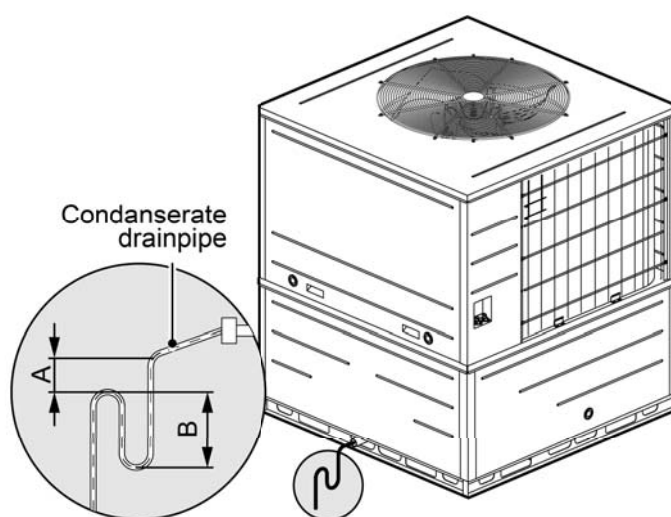

Fig.11
- (1) Condensate drain side is pitched lower than the opposite side. (see Fig. 11)
- (2) When shipped out from factory, both the condensate outlets are blocked by rubber plug. So before installation, please take the rubber plug out.
- (3) Condensate removal is performed by attaching a PVC pipe to the drain pan and terminated in accordance with local or state Plumbing/HVAC codes.
- (4) The condensate pipe shall be installed with an inclining angel of 5~10°, so as to facilitate the drainage of condensate.
- (5) As the inside of the unit is in the negative pressure status, it is required to set up a backwater elbow. The requirements is: $A=B \geq P/10+20(\text{mm})$.P is the absolute pressure inside the unit. The unit of the pressure is Pa.
- (6) After the electrical installation is completed, carry out the testing of the drainage system.
- (7) It is not allowed to connect the condensate drain pipe into waste pipe or other pipelines which are likely to produce corrosive or peculiar smell to prevent the smell from entering indoors or corrupt the unit.
- (8) It is not allowed to connect the condensate drain pipe into rain pipe to prevent rain water from pouring in and cause property loss or personal injury.
- (9) Condensate drain pipe should be connected into special drain system for air conditioner.